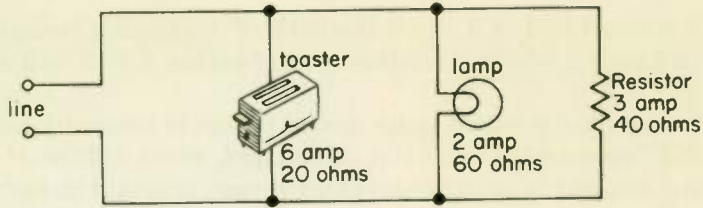

Fig. 5
4. In the circuit given in Fig. 5 a toaster, a lamp, and a resistor are connected across a voltage source. The resistance of each unit and the current drawn by each unit are marked. Using the formula $P = I^2R$, where I is in amperes and R is in ohms, find the power used by each of the three devices.